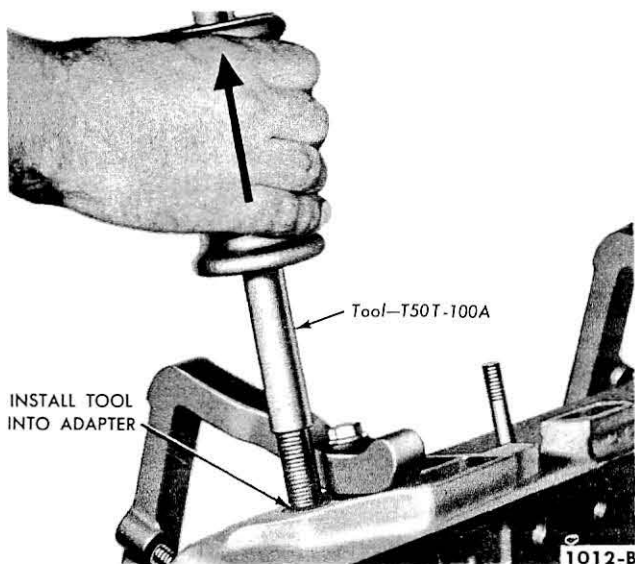

Fig. 12—Temperature Sending Unit Adapter Removal—272 Cubic Inch Engines
**Temperature Sending Unit Adapter—272 Cubic Inch Engines.** To remove the adapter, thread the impact hammer handle into the adapter, then tighten the lock nut against the adapter (Fig. 12). Remove the adapter by using the slide hammer.